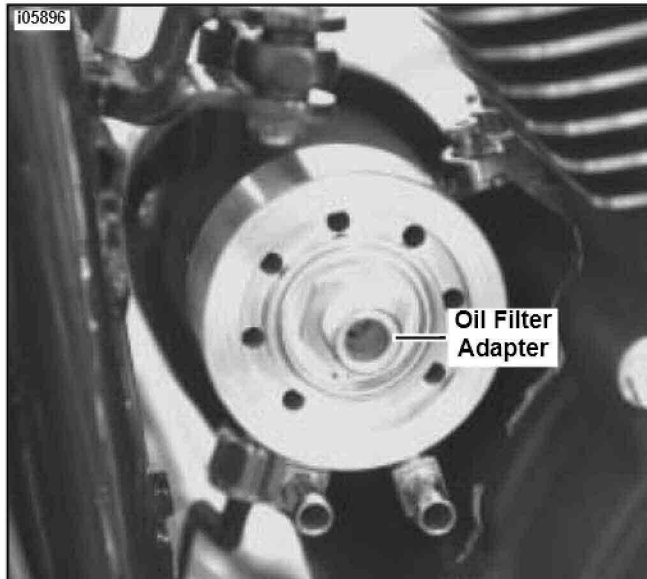

Figure 4. Install Oil Filter Adapter
- See Figure 4 Orient the oil filter adapter as shown and thread into the larger hole in the oil filter adapter body. Tighten the oil filter adapter to 144 in-lbs (16.2 Nm).